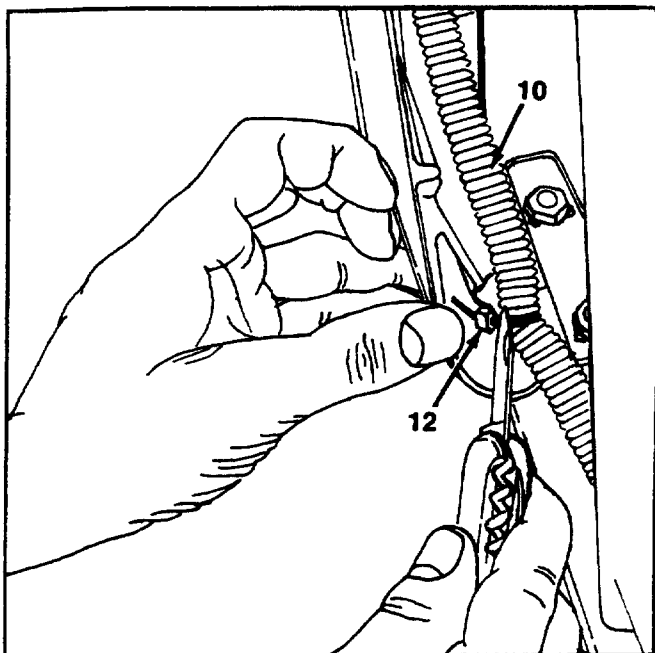

FIGURE 9.
10. Cut the cable tie at the bottom left hand side of grille, holding the headlight wire harness. See figure 9.